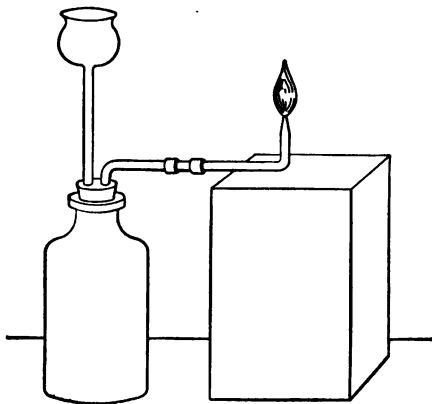

FIG. 25.
M. We can do that, too, with a hydrogen flame. I fasten, to the apparatus, a glass tube the end of which I have made narrower, and let the hydrogen burn from it (Fig. 25). There, you see the drops at once.